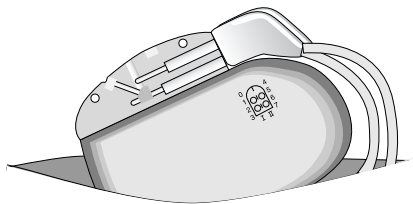

Figure 16. *Implant neurostimulator.*
11. Place the neurostimulator into the subcutaneous pocket, with the etched identification side facing outward away from the muscle layer of the body (Figure 16).